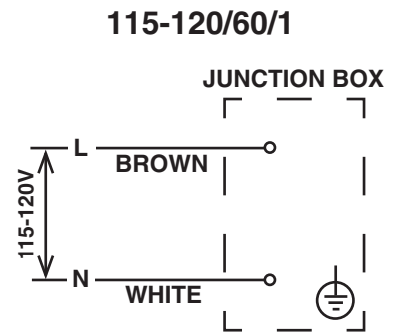

Fig. 8
- Electrical connection must be made in accordance with the instructions on the “WARNING” tag, provided with the pig tail leads in the junction box. See Fig. 8.
- The white lead must be connected to the neutral conductor of the power source. **NOTICE! Miswiring may result in severe damage to the icemaker.** See Fig. 8.